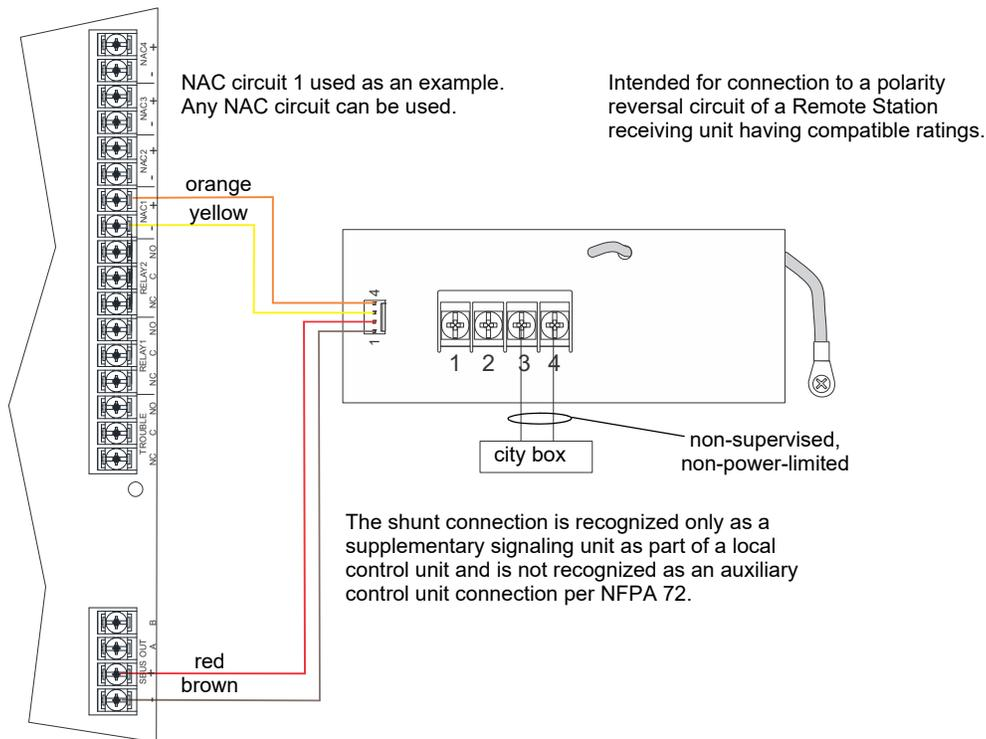

Figure 4.42 City Box Connection
2. Wire the 5220 to the control panel as shown in Figure 4.42. This drawing also shows how to connect the city box coil to terminals 3 and 4 on the 5220. Do not install an EOL resistor in the terminals of the NAC circuit used for this application.